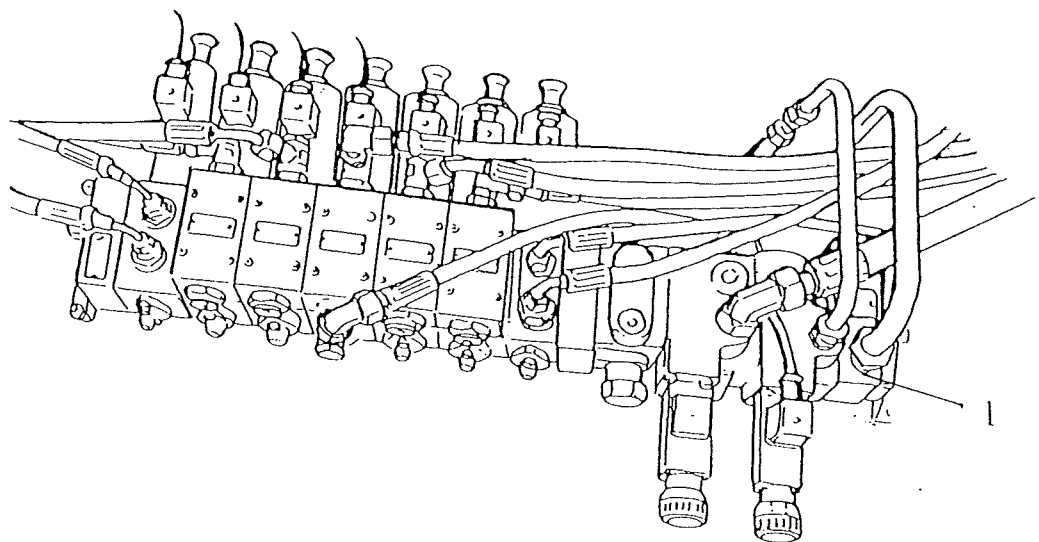

Fig 5.7
Two types of hydraulic system are currently in use by tractor manufacturers, namely OPEN CENTRE or CLOSED CENTRE configurations. Consult the tractor manufacturers handbook or your dealer for further information. The hydraulic valve on the harvester (Fig 5.7) incorporates an end section (item 1) containing a screw which enables easy changing from closed to open centre and vice versa.